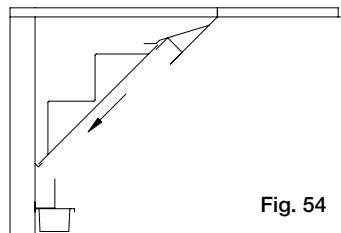

Fig. 54
3. When the filter is even with the bottom rear filter channel, set the filter into the channel; Fig. 54.